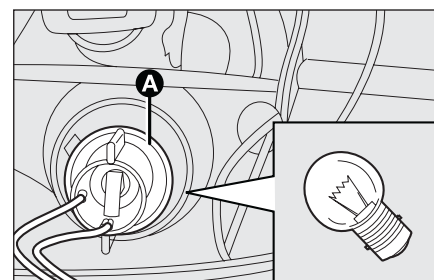

fig. 23
- ☐ turn the bulb holder anticlockwise **A**-fig. 23 and pull it out;